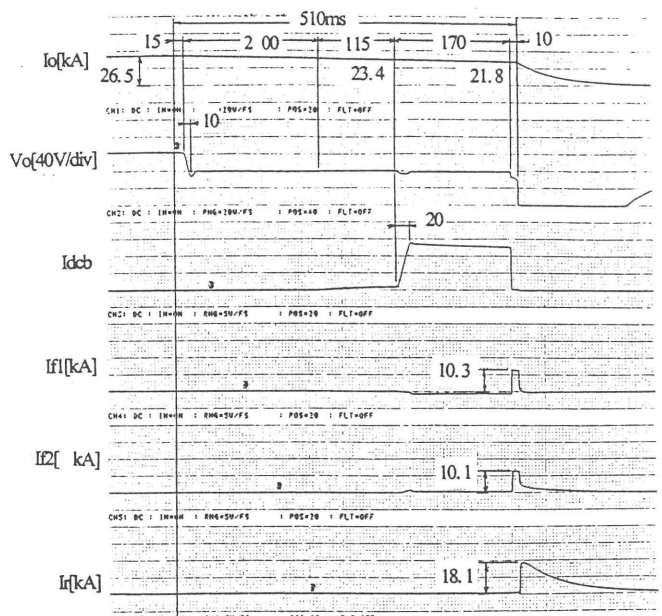

Fig. 2. Voltage and Current Waveforms in Quench Protection
Figure 2 shows one of current and voltage waveforms in quench protection. In this figure, the sequence is as follows: (1) After protection signal, the output voltage of power supply turns to 0V, (2) DS2 close, (3) power supply changes into regeneration and current transfers to DS2, (4) DS1 open, (5) VCB open and current transfers to fuses, (6) fuses break and current transfers to dump resistor. This figure shows the above sequence is finished within 550 milliseconds and it satisfies a request that the delay must be less than 1 second.